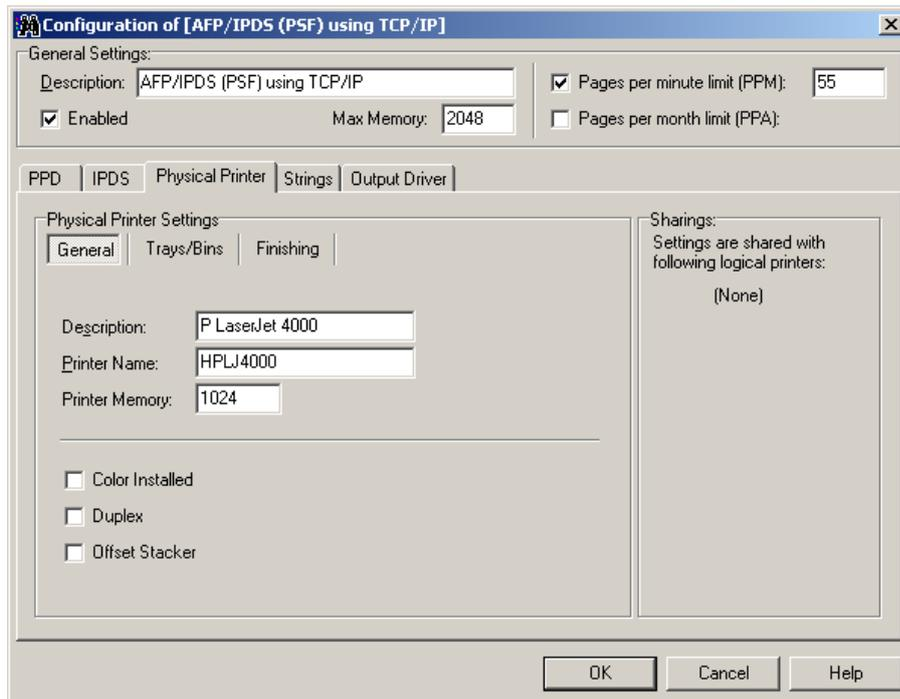
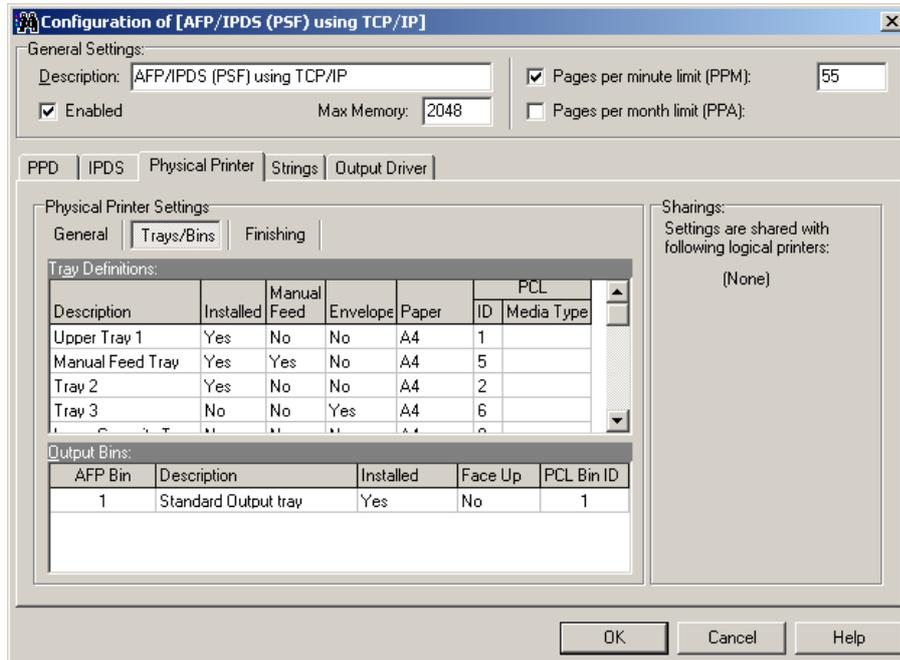

Figure 21, General setting
Figure 22, Trays / Bins
- Click the **Physical Printer** tab. See **Figure 21**.
- In the **Printer Settings** box, clear the **Auto Configure Settings** check box to manually configure the printer settings. (Figure 21 and Figure 22)